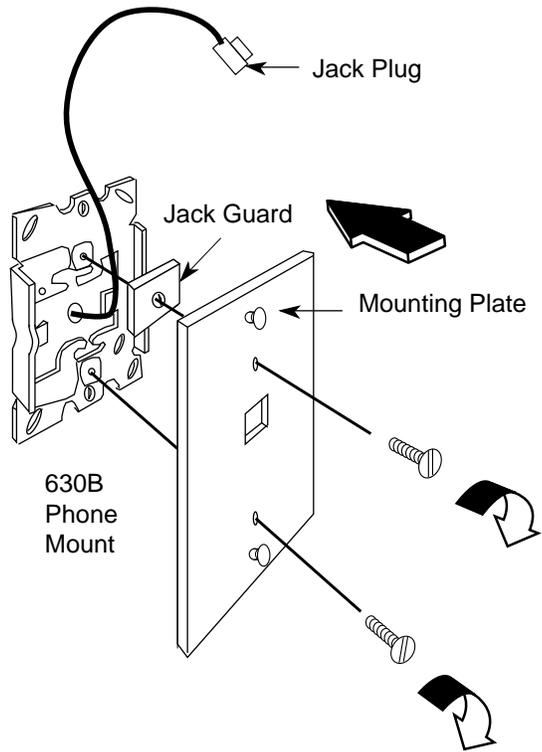

Figure 3–37. Mounting the Backplate
- c Route the D8W cord (or DIW cable) through the hole in the backplate and have it exit at the top of the backplate; leave 10 in. (25 cm) of cord to connect the telephone. See Figure 3–37.